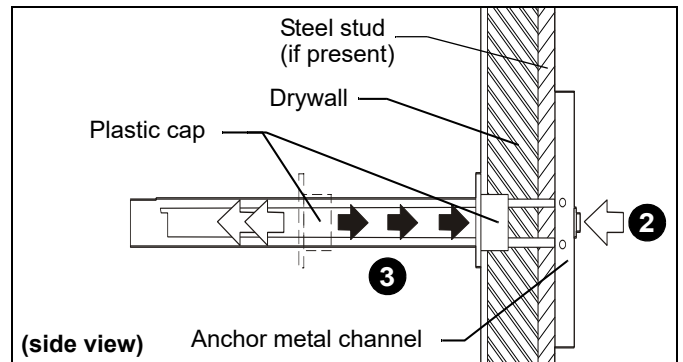

Figure 22
2. Holding plastic straps on anchor, pull anchor away from wall until channel rests flush behind wall making sure anchor channel is positioned vertically on drywall, or steel stud (if present). (See Figure 22)
3. Slide plastic cap on anchor towards wall until flange of cap is flush with wall. (See Figure 22)